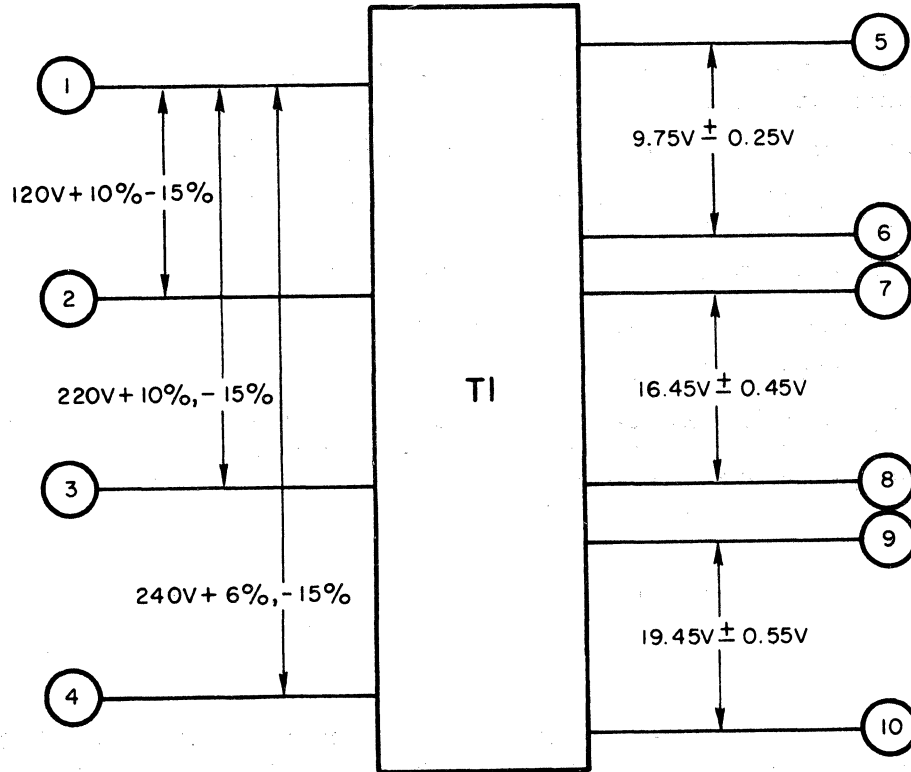

Figure 7-1 Power Transformer Voltages
If the power supply voltages do not correspond to those in Section XI, disconnect the HASL08 connector on the logic PWA and recheck the voltages. If the voltages are correct after the cable has been disconnected, replace the logic PWA. If the voltages are still incorrect, the problem is either the power supply PWA (8) or the transformer (1). In this case, check transformer T1 voltages. The voltage values should correspond to those given in Figure 7-1. If the transformer voltages do not correspond to those given in Figure 7-1, disconnect the secondary (unload the windings) and recheck these voltages. If the voltages are now correct, replace the power supply PWA. If the voltages are still incorrect after the secondary has been disconnected, replace the transformer.